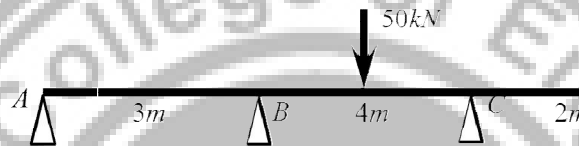

Fig. 1
- 1 Derive the three-moment theorem equations for general loading. (15)
- 2 a) Analyse the continuous beam shown in Fig. 1, using three-moment theorem (Assume EI as constant throughout the beam). Draw BMD. (7)
- b) Find the bending moments at B and C of the continuous beam shown in Fig. 1, using slope deflection method (Assume EI as constant throughout the beam). (8)